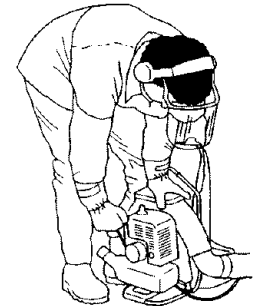

Fig.6
- When you start the blower engine, push the blower toward the ground with one hand on top of the body while you pull the starter cord.(Fig.6)